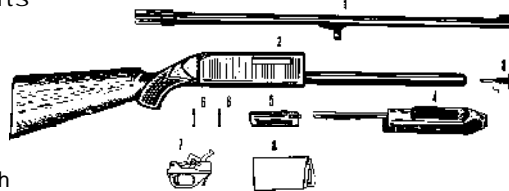

Fig. 5 - IZH81M or KM Version with Folding Stock
7) FIG 5: With the forearm / slide in the rearward position, push the magazine release lever forward to permit insertion of the magazine. A pendulum motion of the magazine during insertion insures that the lips of the magazine body will be to securely engaged.